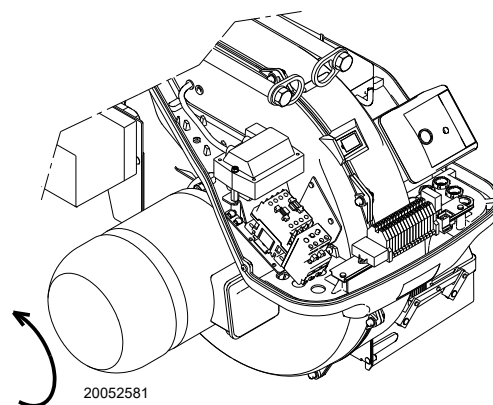

Fig. 30
- check the fan motor rotation direction, as shown in Fig. 30.